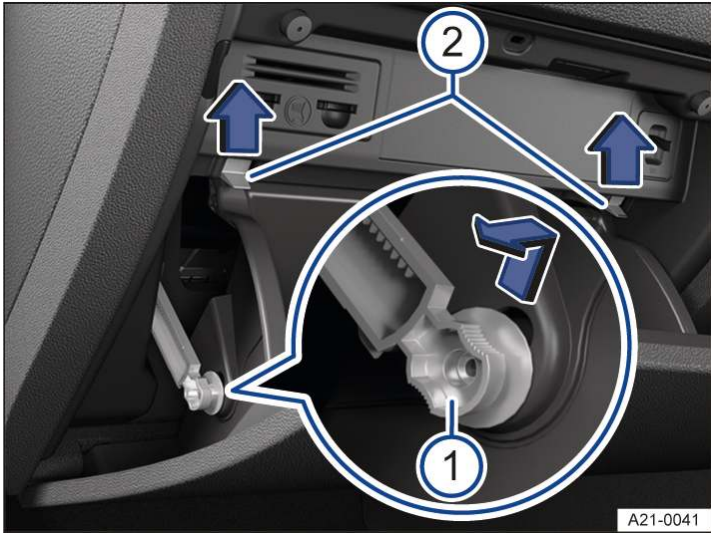

Fig. 2 In the dash panel on the front passenger side: fuse box cover in the dash panel (right-hand drive vehicle)
2. Push restrictor upwards into the opening of the holder and pull out to the side in the direction of the arrow → Fig. 2 ①.
3. Press the stop pin in the direction of the arrow and at the same time open the glove box further → Fig. 2 ②.
2. Insert the restrictor into the opening in the holder and slide upwards in the opposite direction to the arrow until it engages → Fig. 2 ①.
3. Carefully push the glove box forwards past the resistance of the catches → Fig. 2 ②.